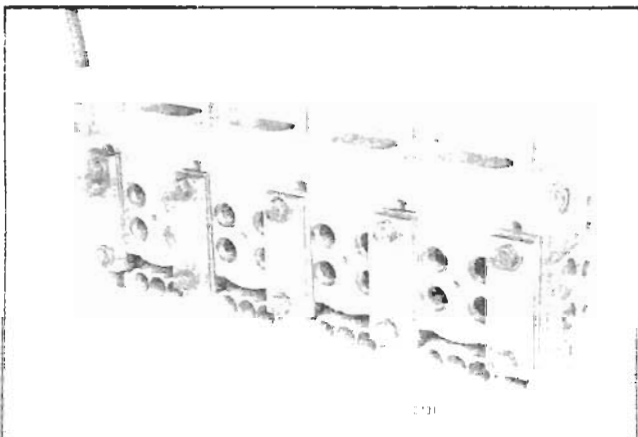

Fig. 6 - Cylinder Head Prepared for Pressure Testing
- Seal off the water holes in the head with steel plates and suitable rubber gaskets secured in place with bolts and washers as shown in Fig. 6. Drill and tap one of the cover plates for an air hose connection.